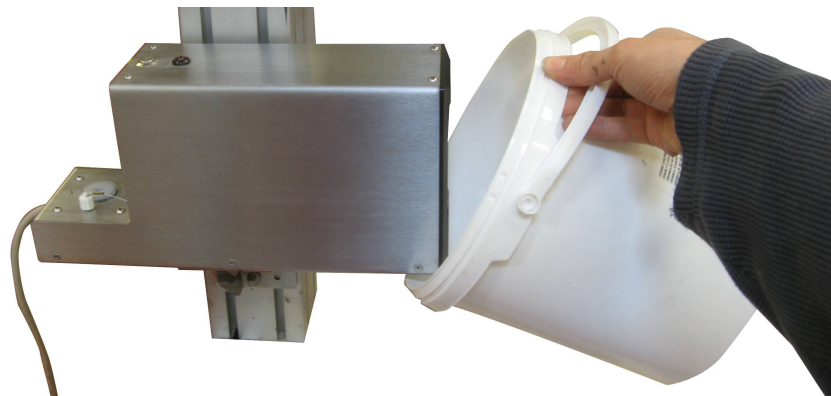
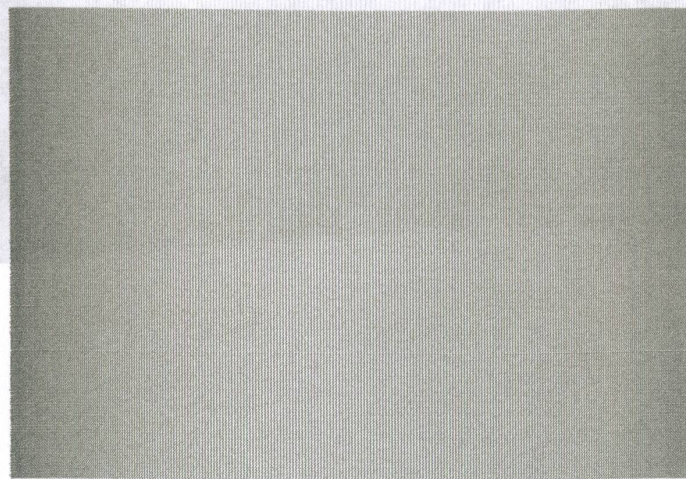
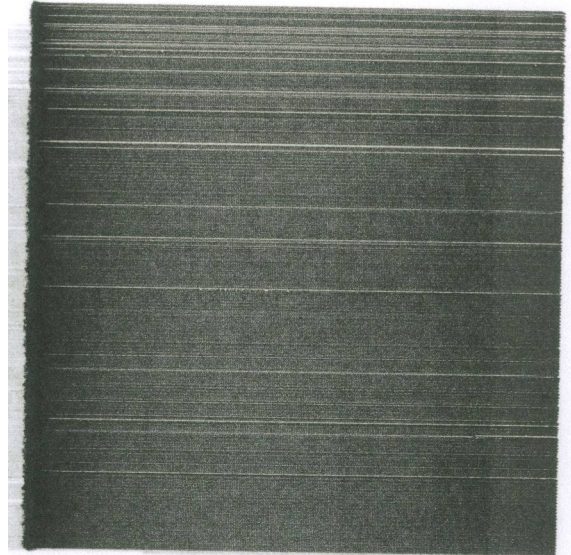

Fig. 13: Place a collecting bucket in front of the print-head
Fig. 18: Correct black pad
Fig. 19: Incomplete black pad
- Place a collecting bucket in front of the print-head (Fig. 13).
- Check that all dots are operating : press arrow down  whilst moving a sheet of paper in front of the print-head. You should print a solid black rectangle (Fig. 18), with no white lines across. Otherwise (Fig. 19) prime again using the “Norm” option (Right arrow  in the “Prime” menu) and a bucket (Fig. 13) and check again if all dots are operating.
- When the printing is correct, the collecting bucket can be removed (Fig. 13).
To print a "test patch" (all nozzles, Fig. 18) press and hold the switch for a longer time.